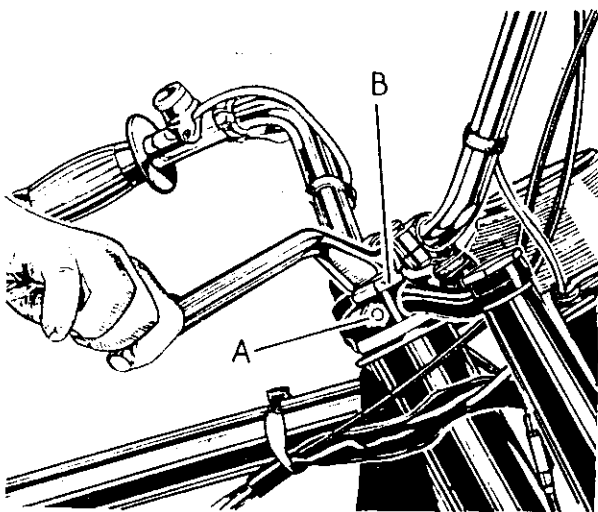

FIG. E.1. Steering head adjustment.
To adjust the steering, remove the damper rod. Slacken off the pinch bolt (A) and the two bolts on the bottom yoke, and using a spanner, screw the nut (B) in (clockwise) to reduce steering play or out (anti-clockwise) to increase steering play (see Fig. E.1):